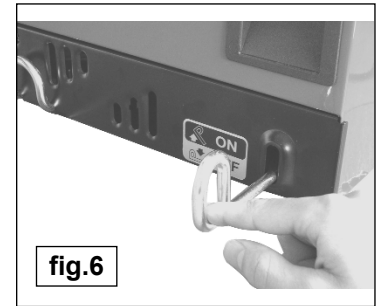

fig.6
- 4.4 If the priming process seems prolonged turn the pump off by lowering the on/off switch lever (fig.6) and check the following points.
- 4.12 Turn the unit off by lowering the on/off switch (See fig.6) and replace the nozzle onto the rest.